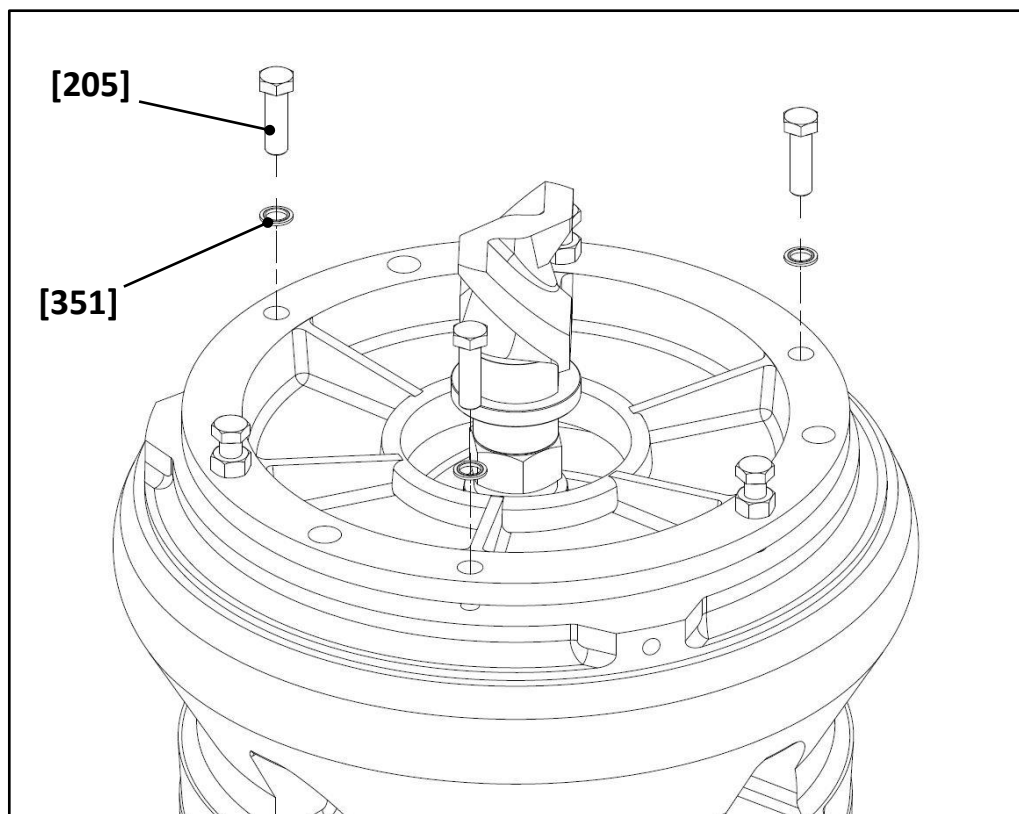

Fig. 27
- remove the n°3 bolts [205] and related seal washers [351] (see Fig. 27);